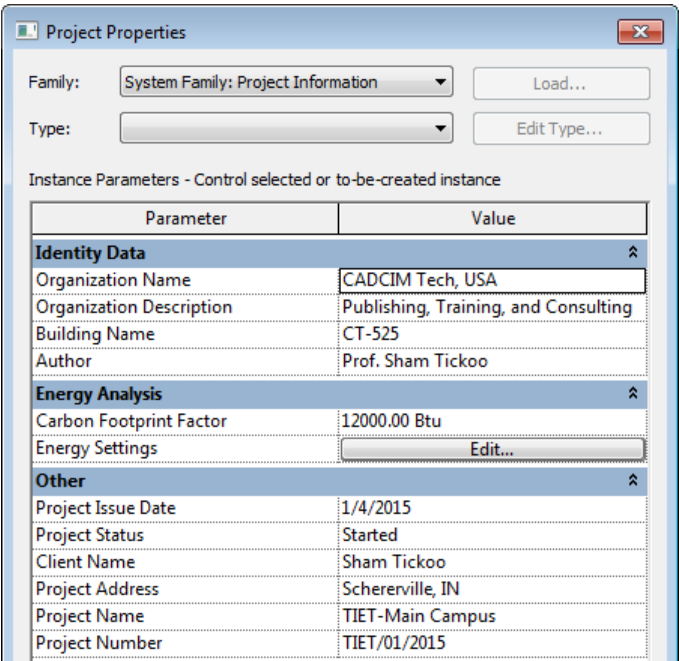

Figure 2-30 Partial view of the **Project Properties** dialog box displaying the specified project parameters
- d. Specify the Project Information, refer to Figure 2-30.
2. In the **Project Properties** dialog box, specify the project parameters as given in Figure 2-30.